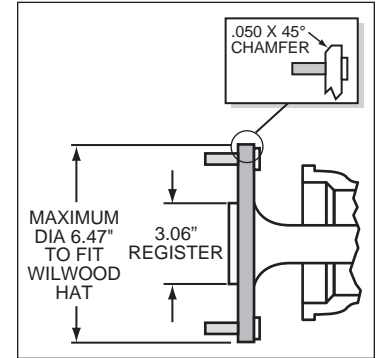

Figure 5. Axle Flange Maximum Dimension
- Axle center register diameter is 3.06", Figure 5. Rotors can either be centered on the axle register, i.e. *register-centric* or centered on the wheel studs, i.e. *stud-centric*. Due to variations in wheel stud final diameters, *register-centric* centering can be a more accurate method of centering the rotor to the axle. Wilwood offers various diameter adapters for purchase, see Table 1.
- Maximum axle flange diameter must be no larger than 6.47" w/.050" x 45° chamfer (Figure 5).